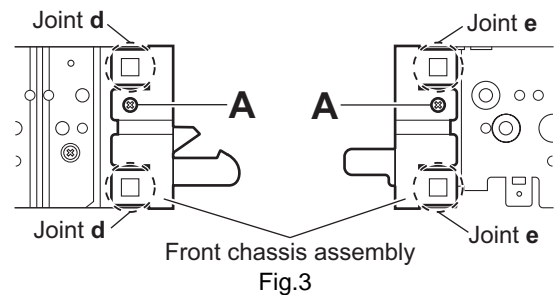

Fig.3
#### 3.1.3 Removing the front chassis assembly (See Figs.3 and 4)
- (1) From the both sides of the main body, remove the two screws **A** attaching the front chassis assembly. (See Fig.3.)
- (3) Release the two joints **d** and two joints **e** from the both sides of the main body, then remove the front chassis assembly toward the front. (See Fig.3.)
### 3.2.2 Removing the connector board (See Figs.3 to 5)